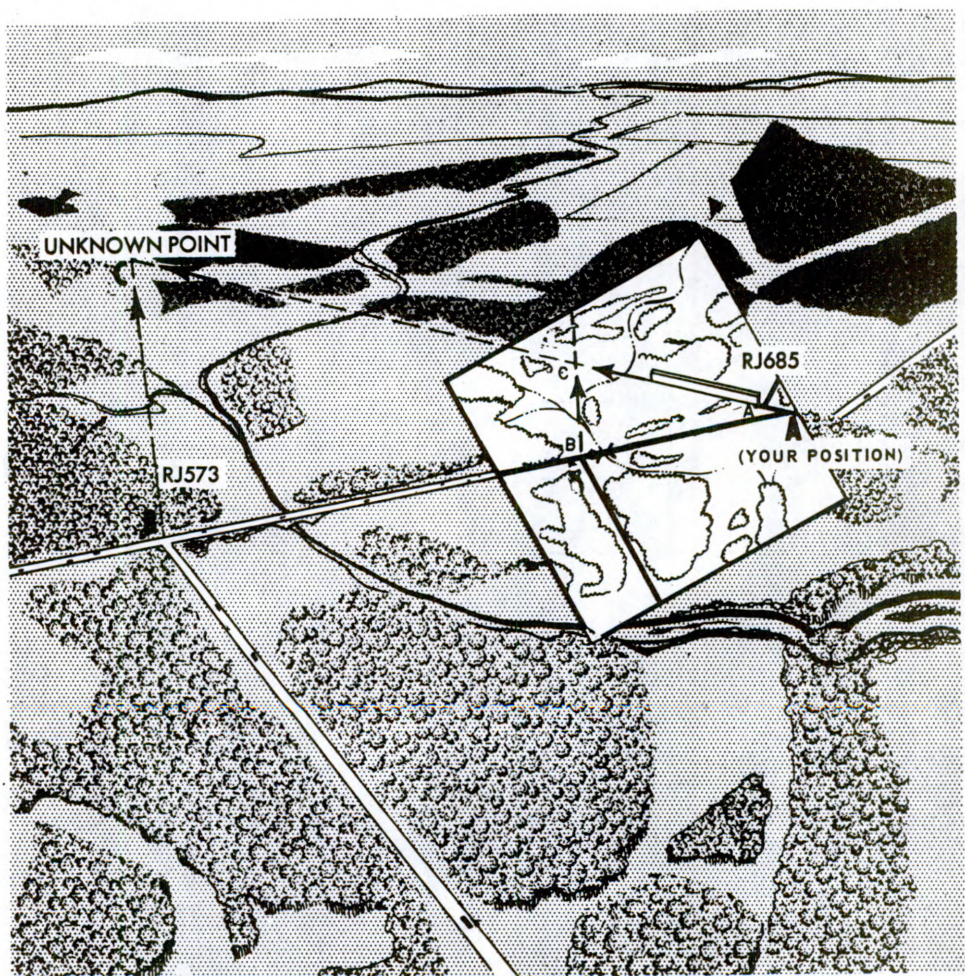

Figure 2. Intersection without compass.
2. Straightedge Method (When No Compass Is Available) (fig. 2).
c. Lay a straightedge on the map with one end at user's position (A) as a pivot point and rotate the straightedge until the unknown point is sighted along the edge.
f. The intersection is the location of the unknown point (C).